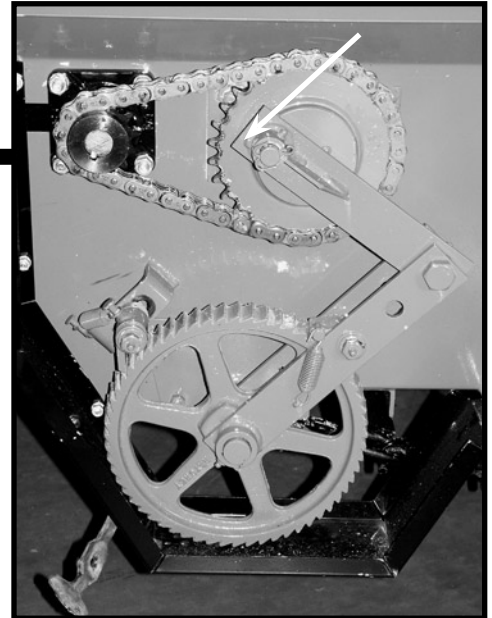
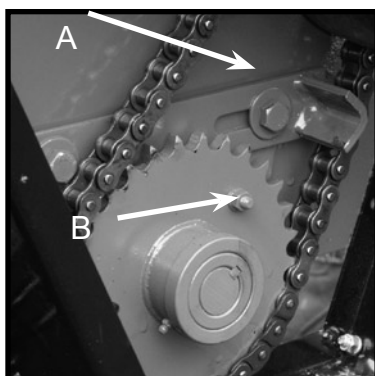

Figure 19-3
Figure 19-4
For all models except the 125 & 175 PTO, the chains are tightened by loosening the Reduction Bracket Bolts (Located behind the large drive sprocket, see Figure 19-3) and sliding the sprocket towards the front of the spreader. If the bracket runs out of adjustment and the chain is not tightened properly, remove a link to create more adjustment. For 125 & 175 PTO models, the chains are tightened with the chain tighteners, (A), Figure 19-4)
The apron drive is protected by a shear bolt, (B), Figure 19-4. Shearing of the bolt is usually due to the apron being frozen to the floor, or the slats catching on manure frozen to the floor.